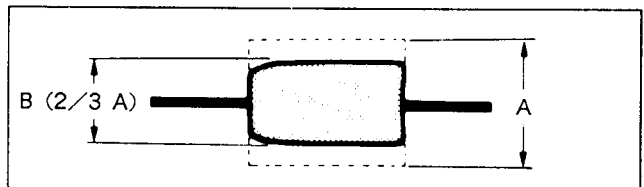

Fig. 7-75.
- 4) Set the SEL switch of the track shift jig to ON, then turn the track shift knob until the RF waveform amplitude becomes 2/3. (See Fig. 7-75.)